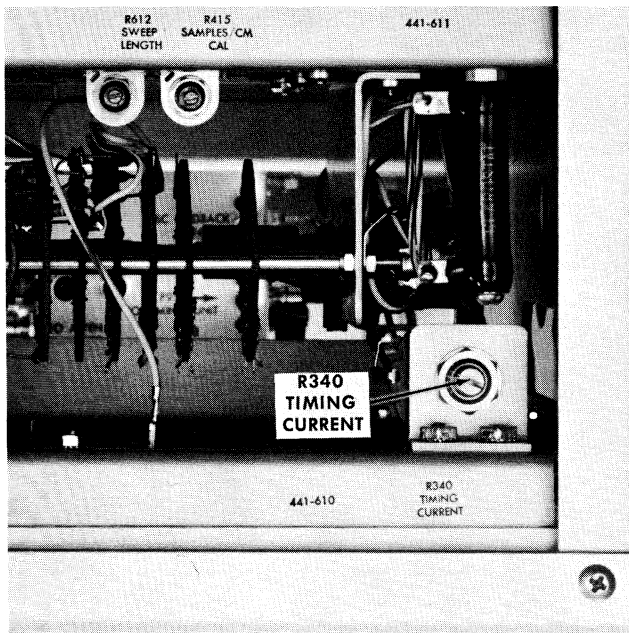

Fig. 5-22. Location of equivalent-time sweep calibration adjustment (TIMING CURRENT R340) on top of Type 5T3.
- g. **Adjust** R340 (TIMING CURRENT) if the display is not correct. The location of R340 is shown in Fig. 5-22.